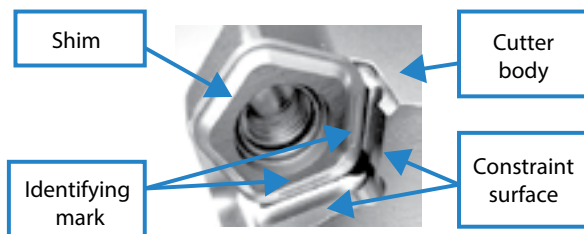
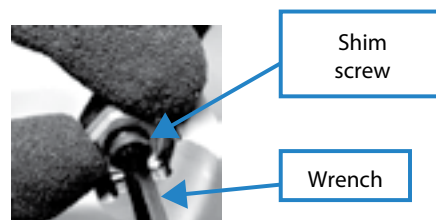

Fig. 5
Fig. 6
2. The shim must be mounted in the proper direction. While aligning the surface of the shim with the mark on it to the corresponding constraint surface (ref. to Fig. 5) and lightly pressing the shim toward the constraint surface, insert the screw into the hole of the shim and tighten it (ref. to Fig. 6).